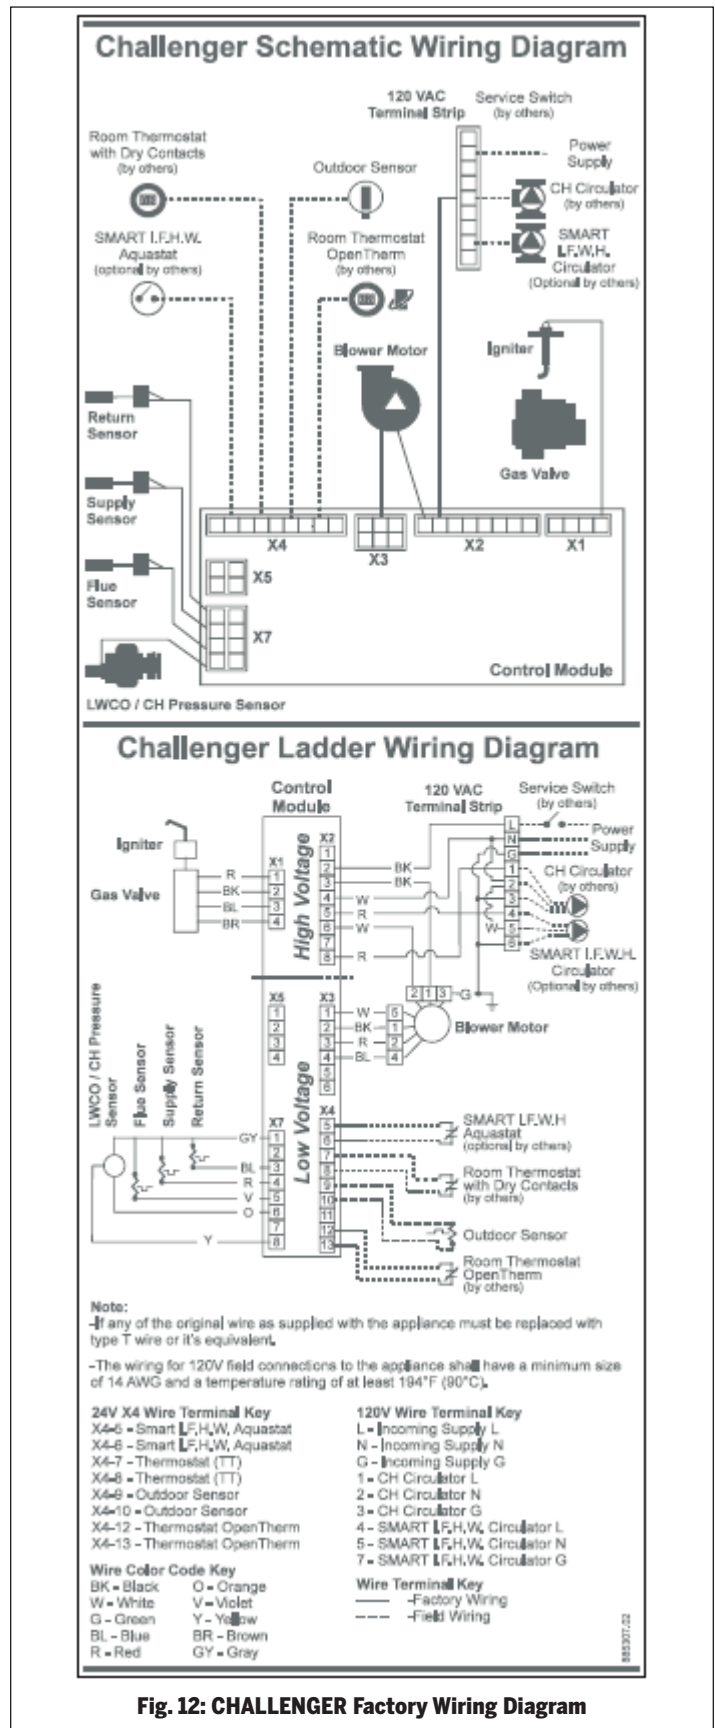

Fig. 12: CHALLENGER Factory Wiring Diagram
1. Connect a 120 VAC/15A service to the 120V terminals L, N, and G inside the CHALLENGER as shown in Fig. 12 on page 19.
4. Wire the CH circulator to the CHALLENGER 120 V terminals 1, 2, and 3 located inside the appliance as shown in Fig. 12 on page 19.
1. Wire the DHW circulator to the CHALLENGER 120 V terminals 4, 5, and 6 located inside the appliance as shown in Fig. 12 on page 19.
1. Wire room thermostat or the zone panel end switch (isolated contact only) to the low voltage terminal strip, as shown in Fig. 12 on page 19.
Wire SMART/COMFORT aquastat to the control module low voltage terminal strip, as shown in Fig. 12 on page 19.